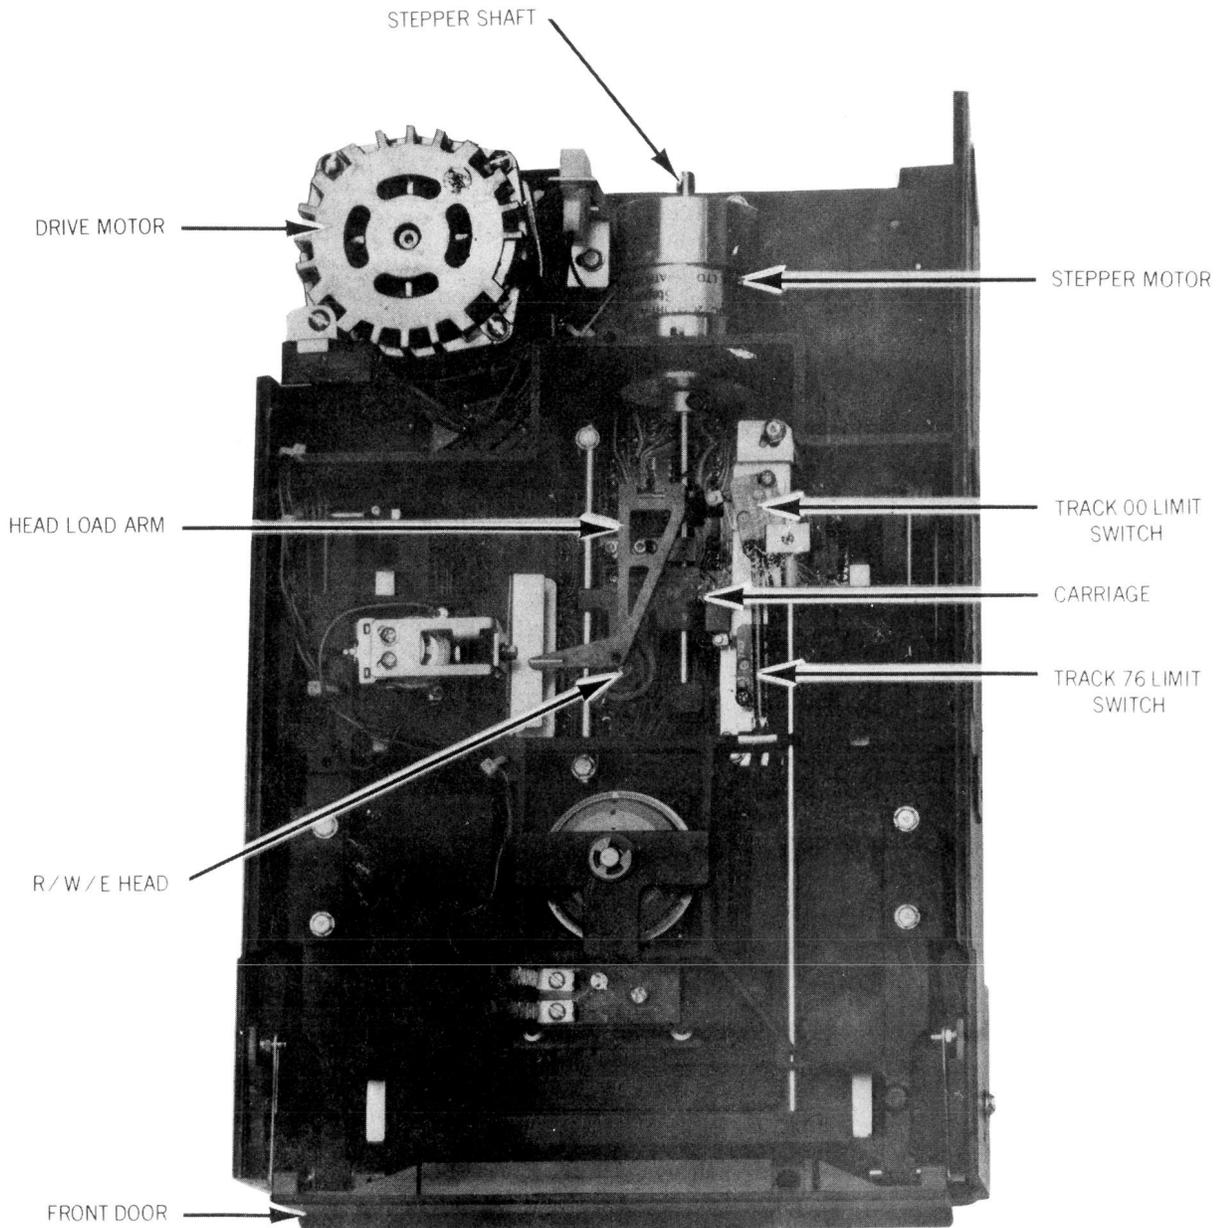

Fig. 5—Top View of FD 700
2.12 This section will discuss the FD 700 Flexible Disk Drive (FDD) (Sykes part #1030C3017), which is an integral part of the Sykes Comm-Stor system (Fig. 5).